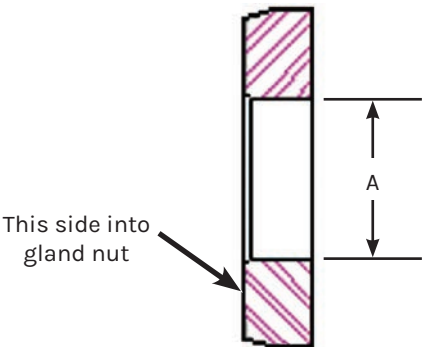

Figure 93: Guide Bushing Check (40K Only).
- 2. On 40K units, measure the diameter of the guide bushing (Figure 93, A). If the diameter exceeds the Dimension A specification listed in the “40K Guide Bushing Replacement Table” below, replace the bushing. If the bushing shows scoring or if the edge is chipped, replace the bushing.